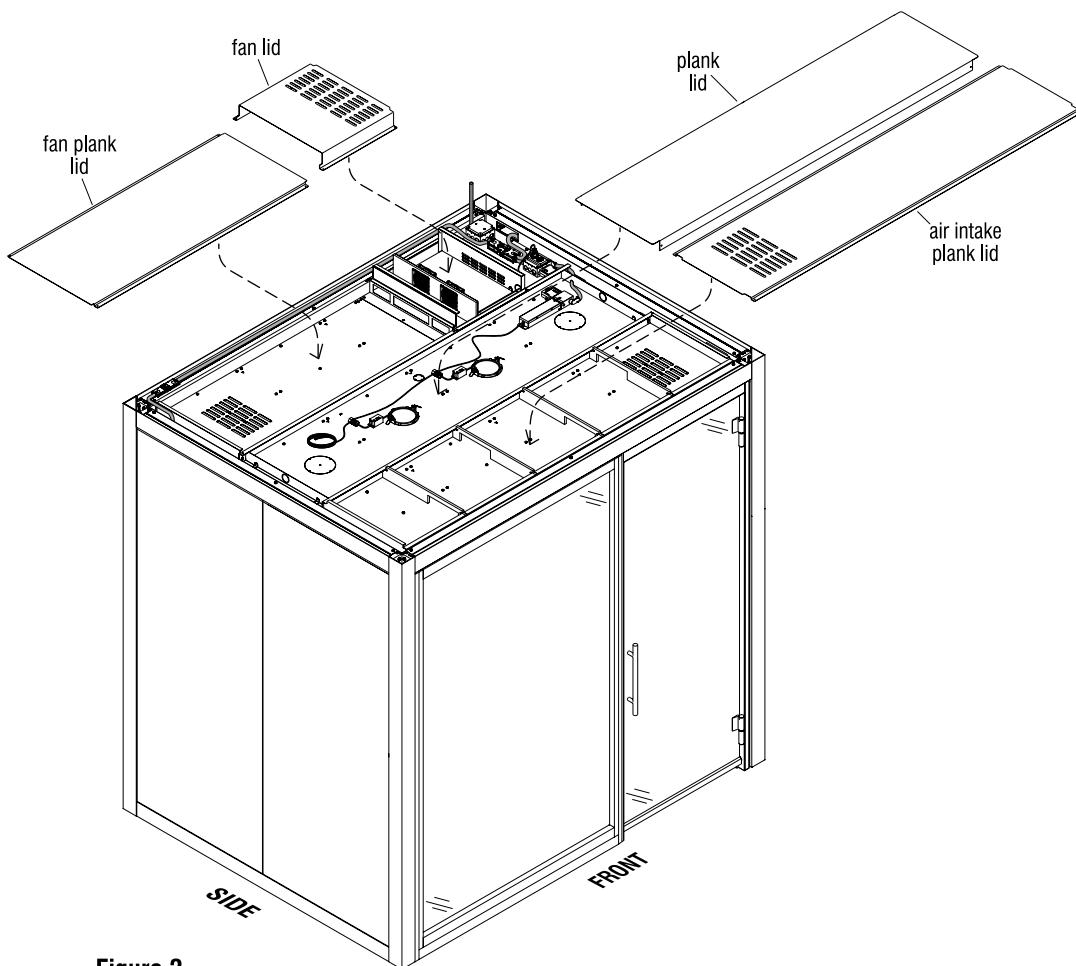

Figure 2
- Using two people, lift all previously removed lids and set them into place on the ceiling (Figure 2).